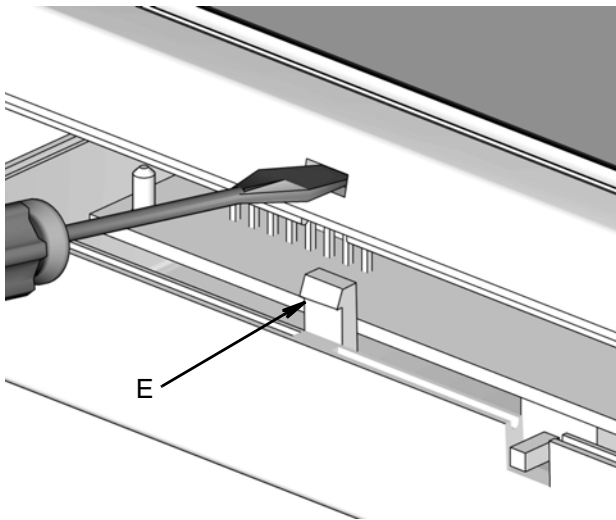

FIG. 11
1. Remove the top cover from the Transceiver box by using a flat screw driver to depress the clip (E) on each side of the cover as shown in FIG. 11.